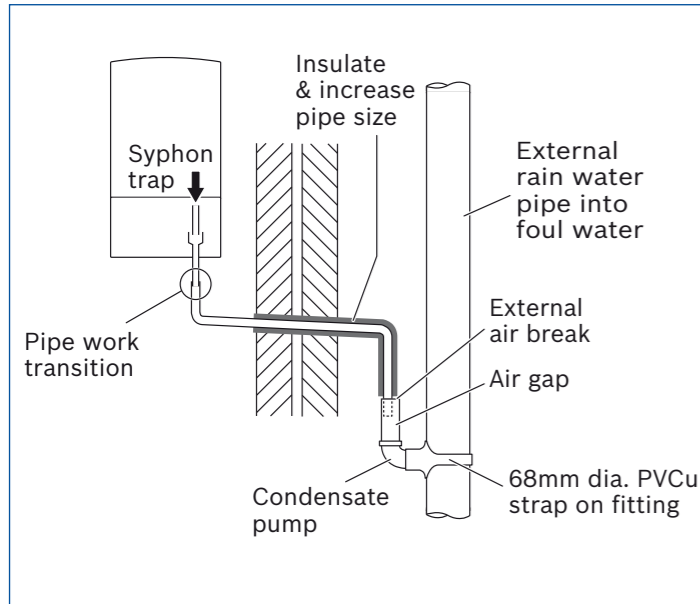

Fig. 4 Disposal into a rainwater down pipe
- Refer to figure 4. When a rain water down pipe, that goes directly into a sewer that carries both rainwater and foul water, is used to dispose of condensate.